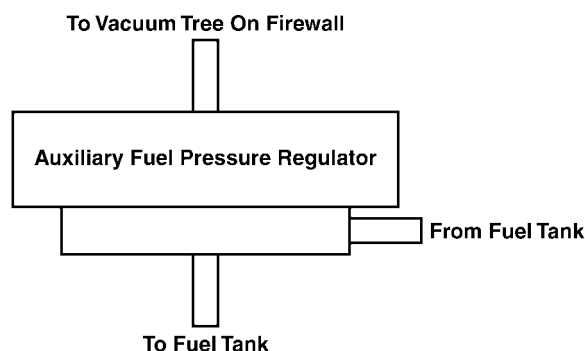

FIGURE 2. FUEL PRESSURE REGULATOR CONNECTION
- STEP 19:** Connect the new supplied fuel hose with the male Ford fitting to the female end of the disconnect line. Connect the fuel hose with the female Ford fitting to the disconnected fuel line with the male fitting. The fuel hose connected to the upper fitting of the disconnected fuel line (on the line from the factory pressure regulator) goes to the fitting on the side of the auxiliary fuel pressure regulator. **See Figure 2.**